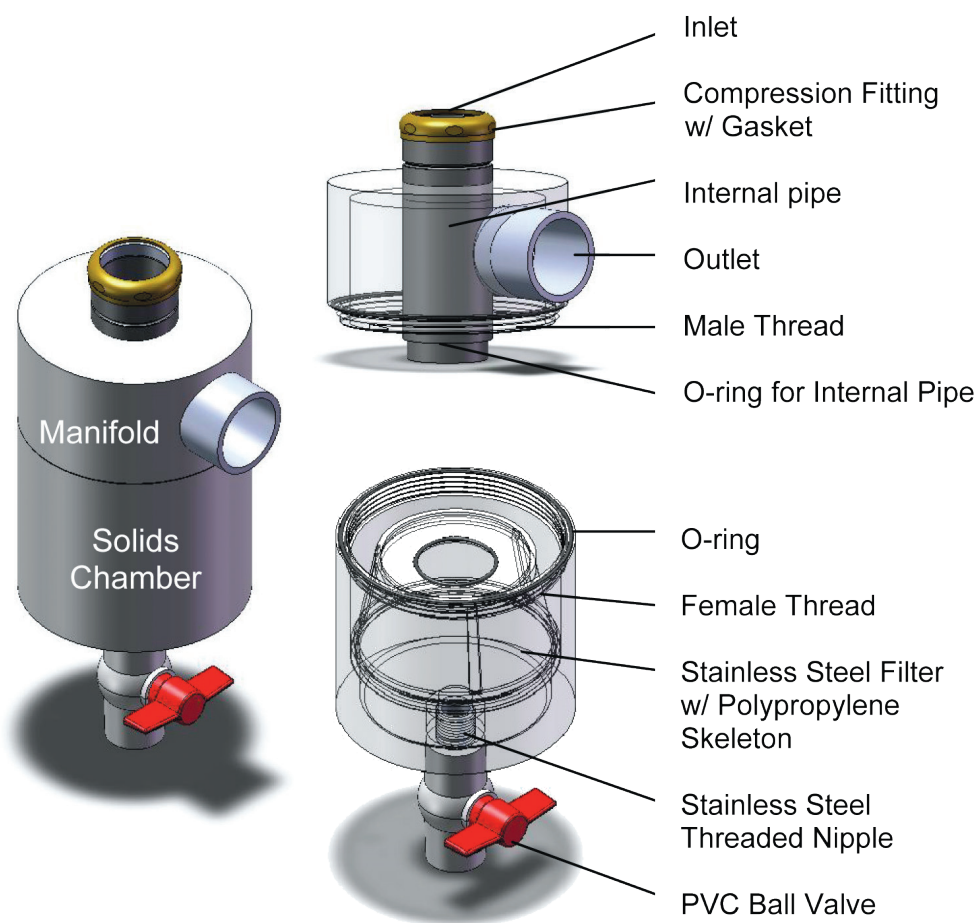

Figure 1 : Microceptor Components
1) the Manifold and 2) the Solids Chamber (see Figure 1).